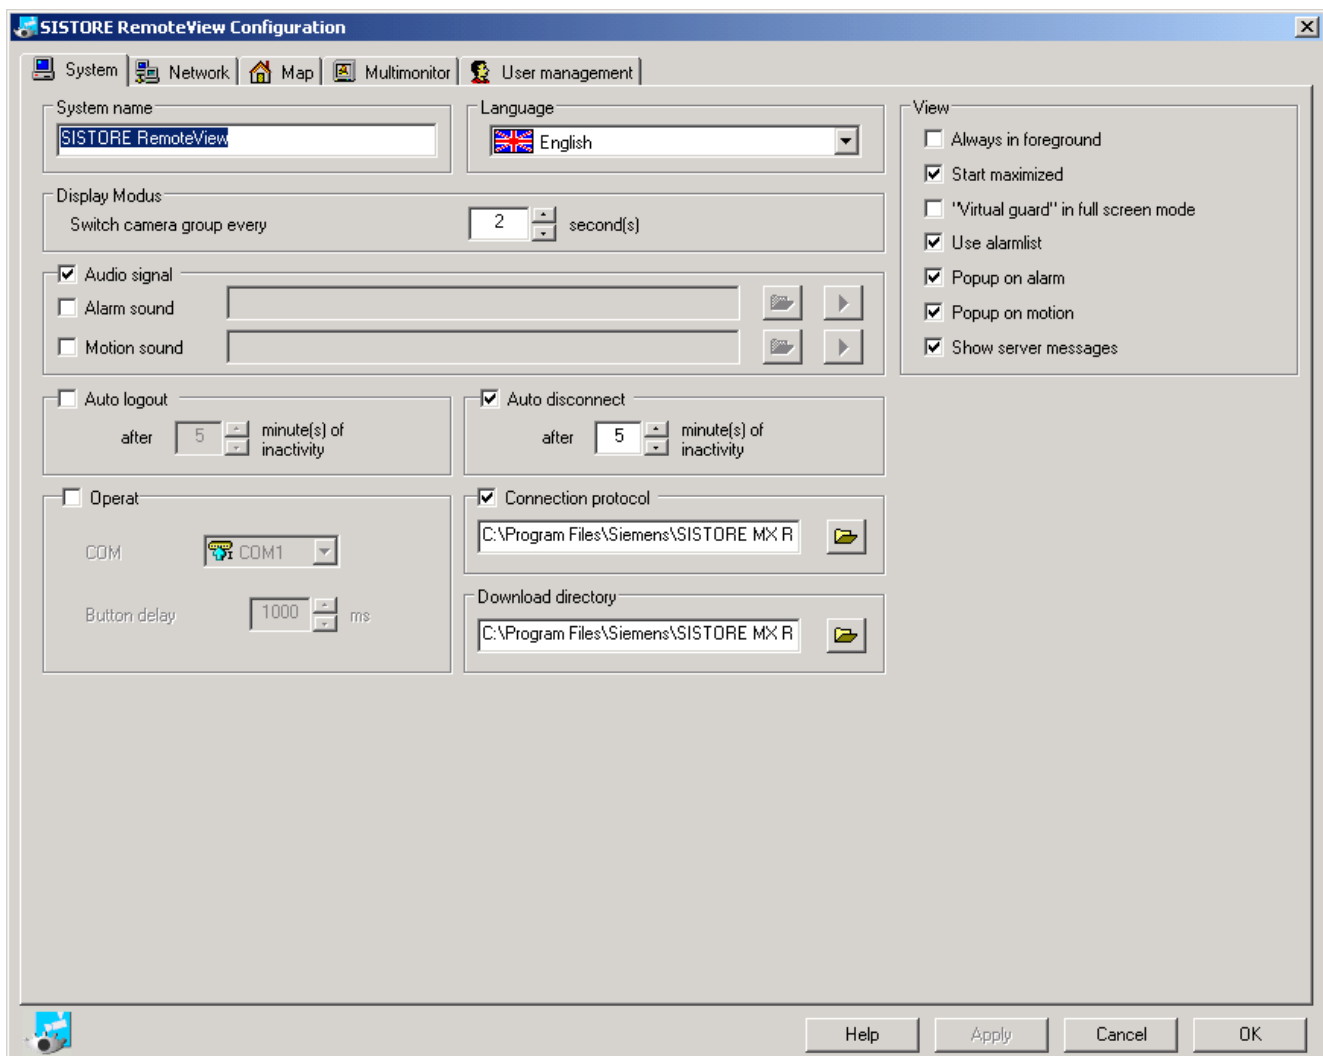

Fig. 191 SISTORE RemoteView – System tab
→ The configuration mode will open (see Fig. 191).
1. Select the **System** tab (see Fig. 191).